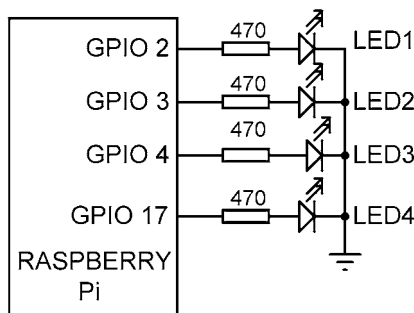
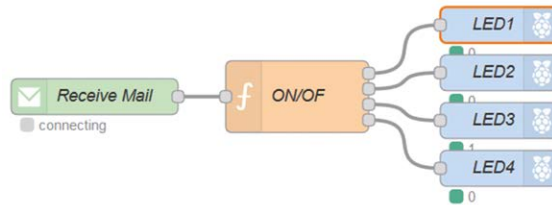

Figure 5.36 Circuit diagram of the project
Figure 5.37 Flow program of the project
Circuit diagram: The circuit diagram of the project is shown in Figure 5.36. The LEDs are connected to the following Raspberry Pi port pins through 470 Ohm current limiting resistors:
Node-RED flow program: Figure 5.37 shows the flow program. In this program 6 nodes are used: an **email in** node to check and get the email at regular intervals, a **function** node with 4 outputs to decode the user commands, and 4 **rpi gpio out** nodes to control the 4 LEDs.
- Join the nodes as shown in Figure 5.37 and click **Deploy**. To test the program, connect the hardware as in Figure 5.36 and send an email for example with the contents of **ON=2**. LED2 should turn ON. Send an email with **OF=2** and this time LED2 should turn OFF